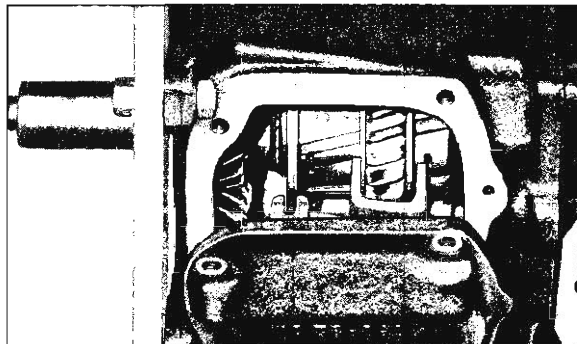

Fig. 2A—Cover Assembly Installation
**NOTE:** Hump on first and reverse shifter fork (fig. 2A) must be toward rear of transmission.